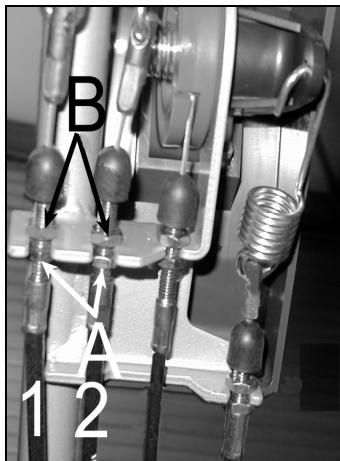

Figure 17-1
#### Transmission adjustment (figure 17-1, 17-2) :
- **Wire #°1 :** unscrew nut « A » (fig 17-1, 17-2). Screw adjusting nut « B » to increase the efficiency. When adjustment is performed screw again nut « A ».